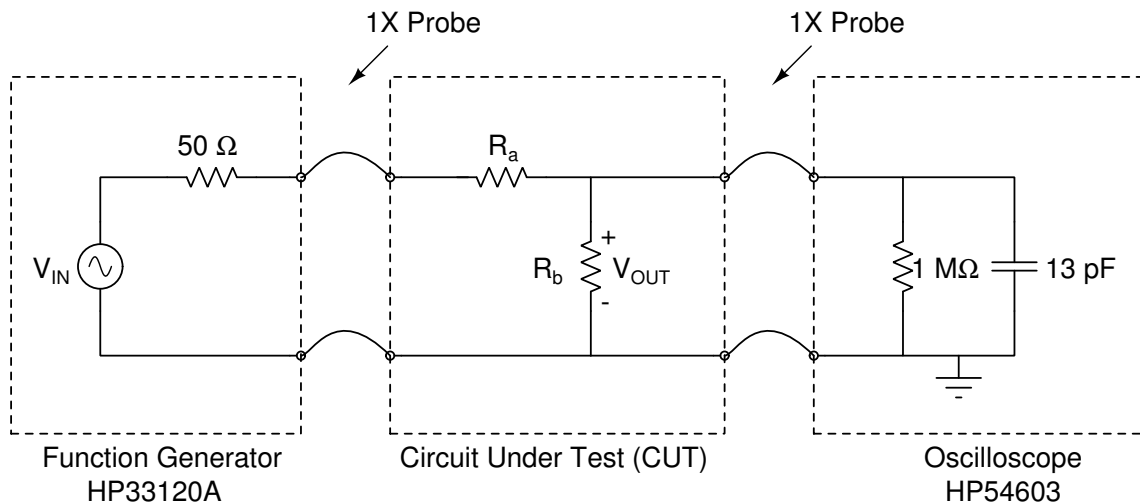
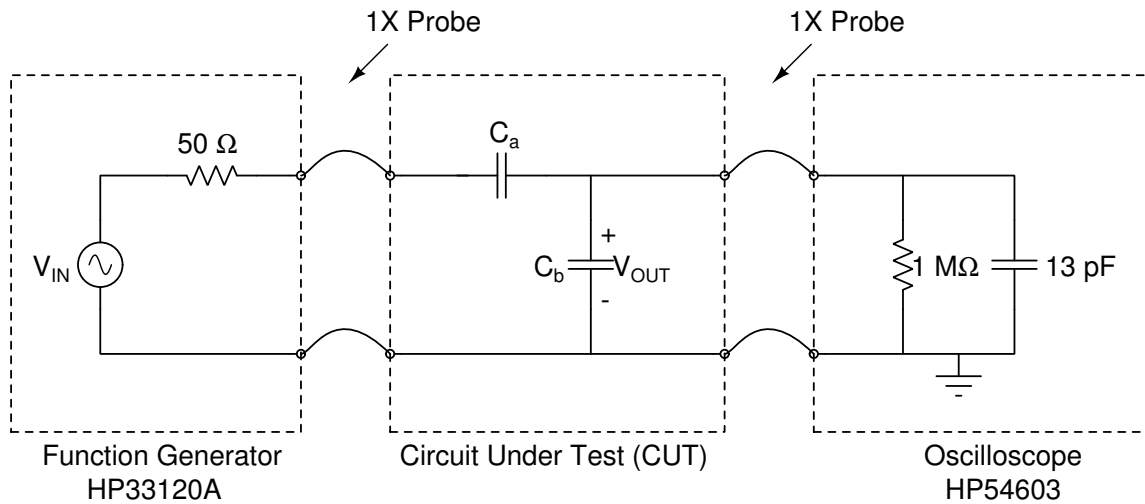

Figure 1: Test set-up and resistor divider circuit for Lab #1.
Figure 2: Test set-up and capacitor divider circuit for Lab #1.
In this lab you are to determine the voltage ratio, V_{OUT}/V_{IN} , produced by the voltage divider with resistors R_a and R_b shown in Figure 1, and with capacitors C_a and C_b shown in Figure 2.
- Use the Tenma 72-1025 LCR Meter to measure the capacitance of your 1X probes at a frequency of 1kHz. Also measure the Dissipation Factor (D) of the probes at a frequency of 1kHz.
- Set the FG to generate a 1kHz sinusoidal signal with peak voltage $V_{IN} = 1V$. Verify both the frequency and peak voltage using the scope, then connect the FG and scope to the resistors R_a and R_b as shown in Figure 1.
- Set the FG to generate a 1kHz sinusoidal signal with peak voltage $V_{IN} = 1\text{V}$ and connect the FG and scope as shown in Figure 2.